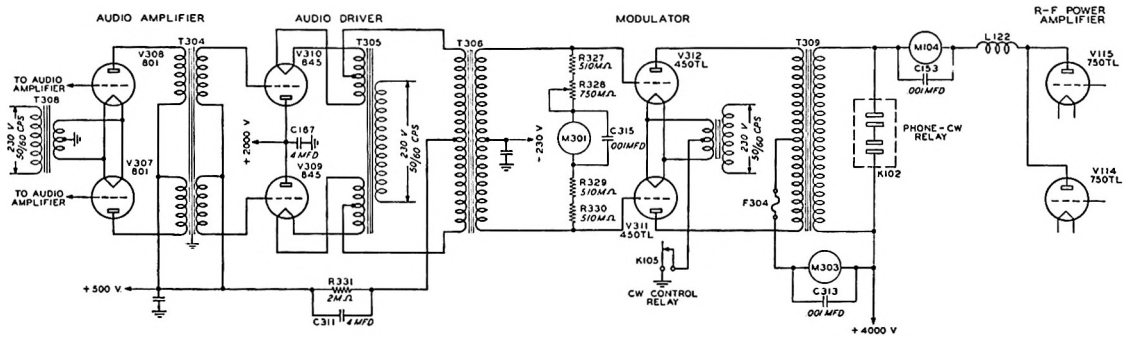

Figure 15. Audio Driver and Modulator Circuits
2.9.5. Audio Driver. Refer to figure 15. A cathode-coupled push-pull audio driver is employed to drive the Class B modulator stage. The audio driver employs two Type 845 transmitter triodes (V309 and V310). By taking the output from the cathode circuit rather than the plate circuit a much lower impedance output is obtained, making it much easier to couple the output of the audio amplifier to the grids of the modulator tubes.